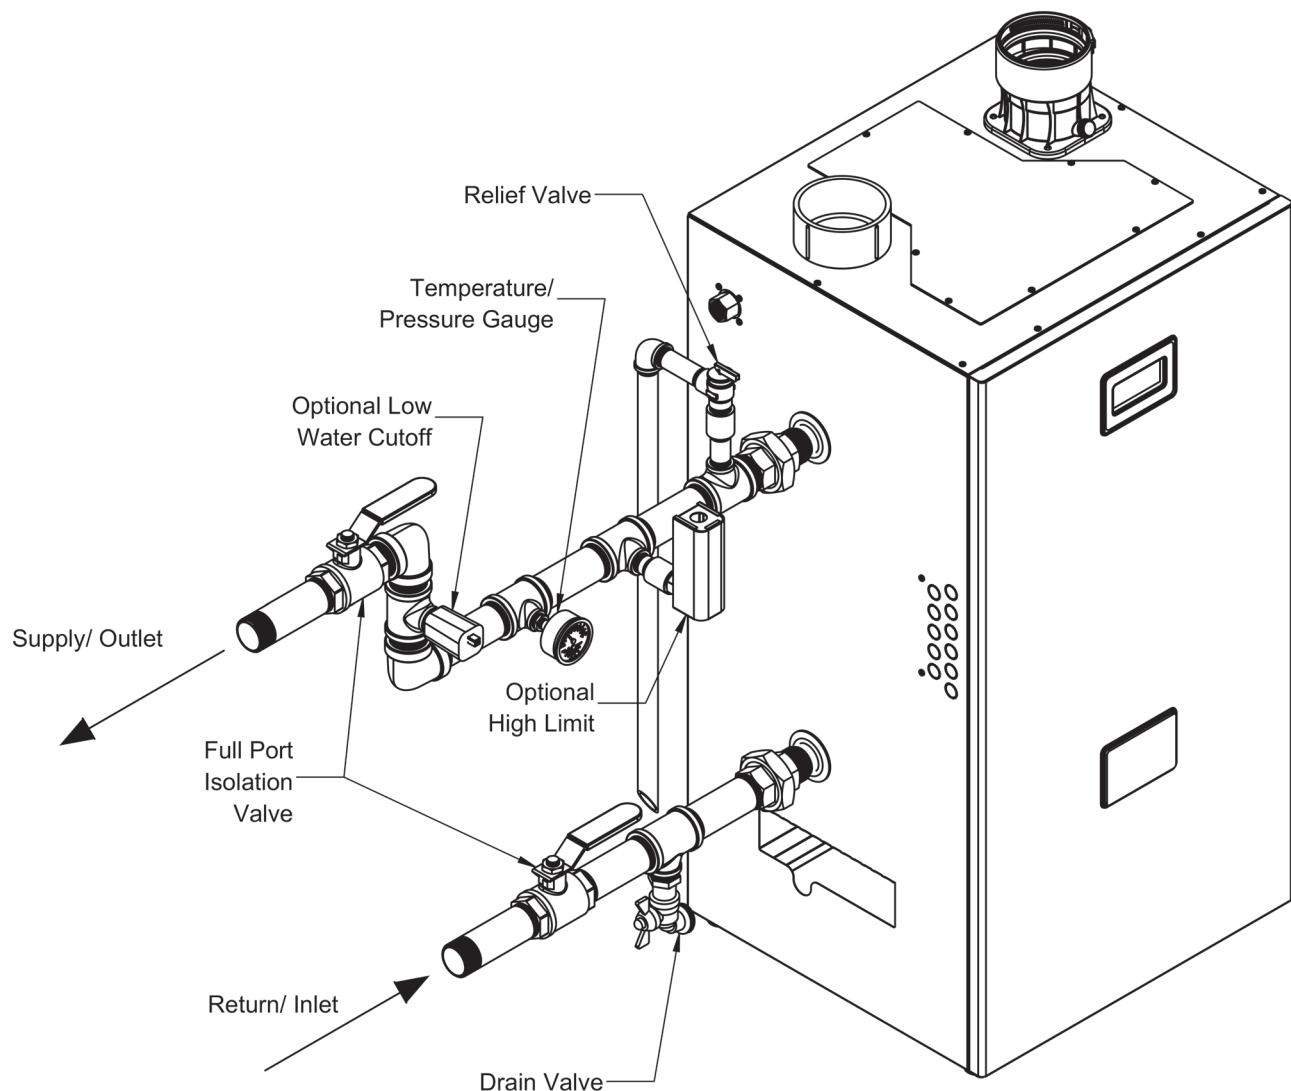

Figure 9.1: Near Boiler Piping
1. **Relief Valve (Required)** – The relief valve is shipped loose and must be installed in the location shown in Figure 9.1. ASME Section IV currently requires that this relief valve be installed above the heat exchanger as shown. Pipe the outlet of the relief valve to a location where water or steam will not create a hazard or cause property damage if the valve opens. The end of the discharge pipe must terminate in unthreaded pipe. If the relief valve discharge is not piped to a drain, it must terminate at least 6" above the floor. Do not run the discharge piping through an area that is prone to freezing. The termination of the relief valve must be in an area where it is not likely to become plugged by debris.
2. **Gauge (Required)** - Indicates supply water pressure and temperature. This gauge is shipped loose. Install it as shown in Figure 9.1.
7. **Manual Reset High Limit (required by some codes) (P/N 106056-01)** - This control is required by ASME CSD-1 and some other codes. Install the high limit in the boiler supply piping near the boiler with no intervening valves as shown in Figure 9.1. Set the manual reset high limit to 200°F. Wire the limit per Figure 10.3 in Section X "Wiring".
10. **Drain Valve (required)** – Install the drain valve supplied as shown in Figure 9.1.